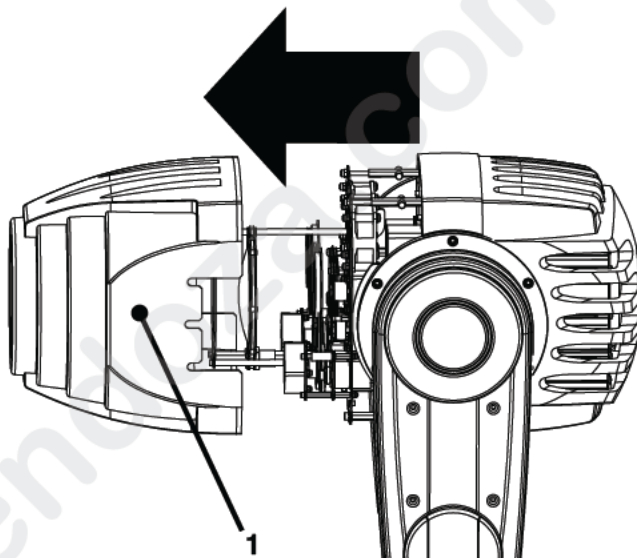

Fig. 2
2. Remove the cover (1) in the direction indicated by the arrow (Fig. 2)